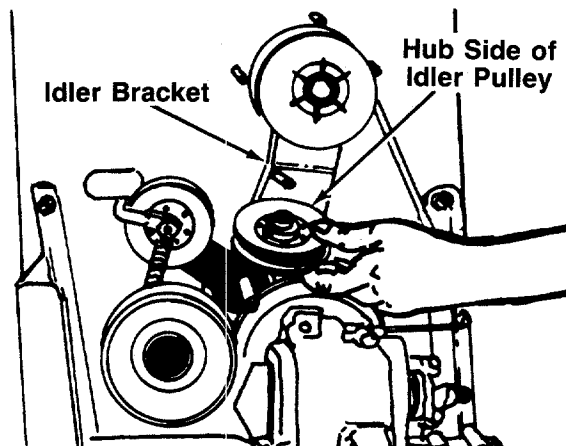

FIGURE 23.
- Upon reassembly of idler pulley, be certain the hub side of idler goes against the idler bracket. See figure 23.